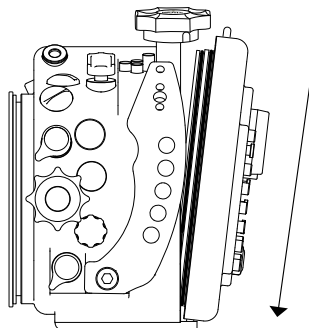

Figure 7
- Insert the two pins on the base of the back into the appropriate slots on the front body, keeping the back in an oblique position; (fig. 7)